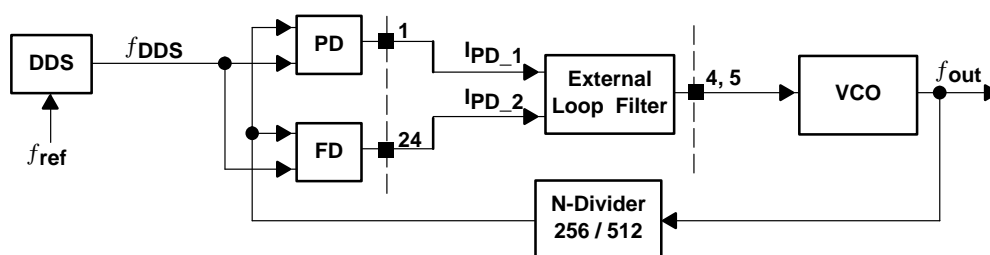

Figure 7. Basic PLL Structure
The phase-locked loop (PLL) of the TRF4400 consists of a phase detector (PD) and a frequency acquisition aid (FD) (including two charge pumps), an external loop filter, voltage-controlled oscillator (VCO), and a programmable fixed prescaler (N-divider) in the feedback loop (see Figure 7).